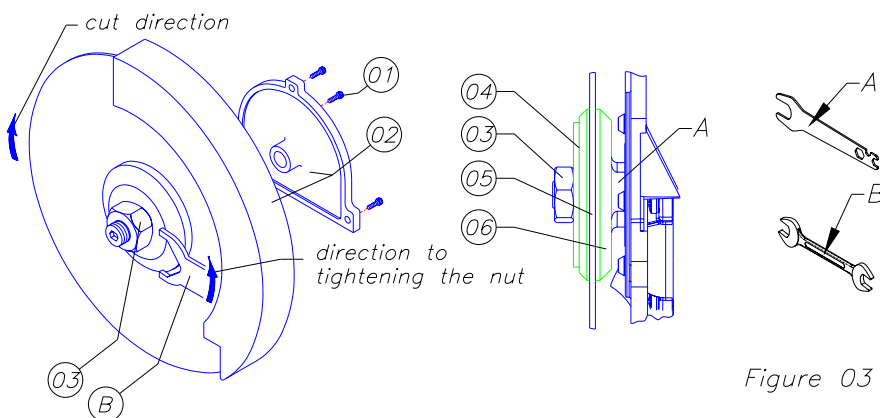

Figure 03
Once this is done proceed as shown as figure 03, following these steps:
- 1) Remove the three bolts from the yellow plastic flange, figure 03 (01);
- 2) Remove the yellow plastic flange and the acrylic blade guard figure 03 (02);
- 3) Insert wrench 1 in the region A as shown in figure 03 (06);
clockwise, loosen the nut, as shown figure 03 (03);
- 7) Remove the nut figure 03(03);
- 8) Take the flange off figure 03 (04);
- 9) You are finally ready to remove the blade, figure 03 (05);
- 2) Flange, figure 03 (04);
- 3) Nut, figure 03 (04) manually tight to the end;
- 4) Insert wrench A in the region A, figure 03 (06);
- 5) Then using wrench B turn the blades nut counter clockwise, figure 03 (03);
- 7) Fit the acrylic blade guard item 02, around the blade and right after that fix the yellow plastic flange with three screws by a Phillips key;